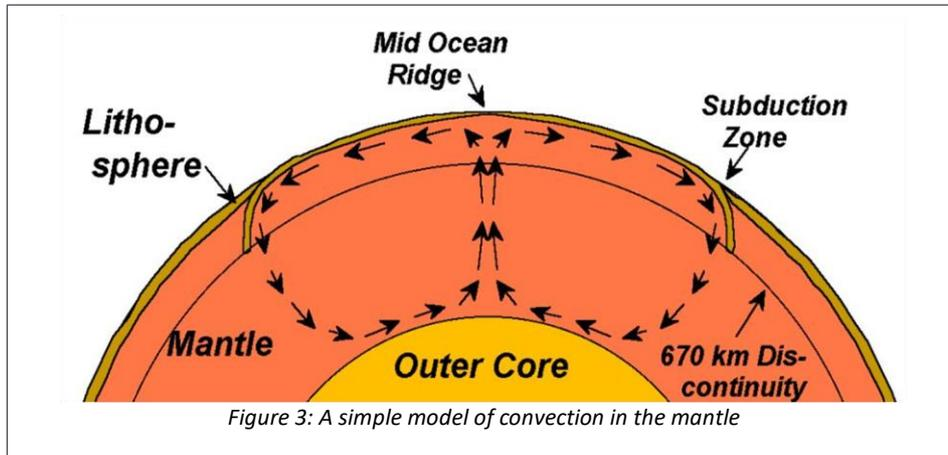

Figure 3: A simple model of convection in the mantle
- Our current understanding of mantle convection is that currents happen throughout the entire mantle (Figures 3 and 4).